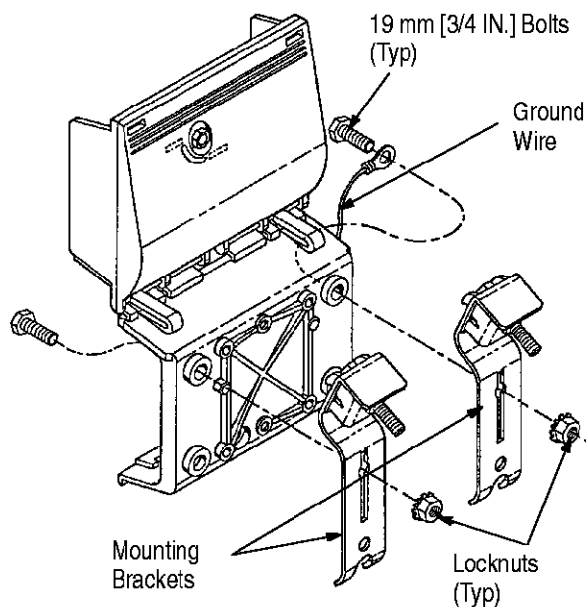

Figure 7
- Place the mounting brackets on the back of the terminal as shown in Figure 7.